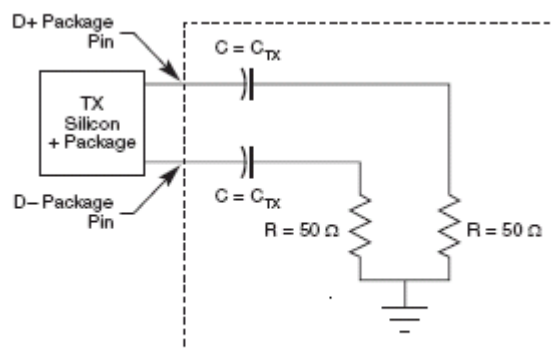

Figure 53. Compliance Test/Measurement Load
1. Specified at the measurement point into a timing and voltage compliance test load as shown in Figure 53 and measured over any 250 consecutive TX UIs.
1. Specified at the measurement point and measured over any 250 consecutive UIs. The test load in Figure 53 should be used as the RX device when taking measurements. If the clocks to the RX and TX are not derived from the same reference clock, the TX UI recovered from 3500 consecutive UI must be used as a reference for the eye diagram.
2. Specified at the measurement point into a timing and voltage compliance test load as shown in Figure 53 and measured over any 250 consecutive TX UIs.
- Specified at the measurement point and measured over any 250 consecutive UIs. The test load in Figure 53 should be used as the RX device when taking measurements. If the clocks to the RX and TX are not derived from the same reference clock, the TX UI recovered from 3500 consecutive UI must be used as a reference for the eye diagram.